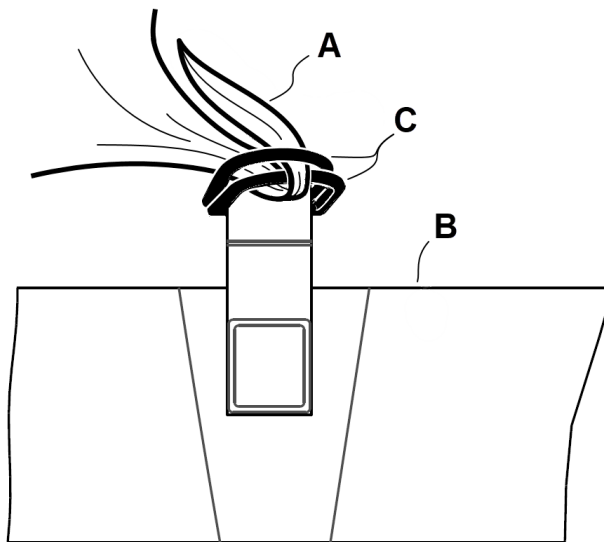

Figure 18 – Apply linens
1. Part the D-rings (C) (Figure 18).
2. Thread the four linen corners through the D-rings (C) attached to the bottom cover to secure the linens (A) to the support surface (B).